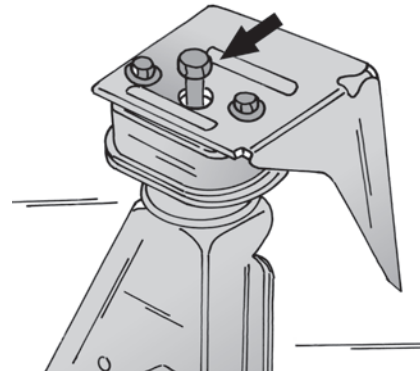
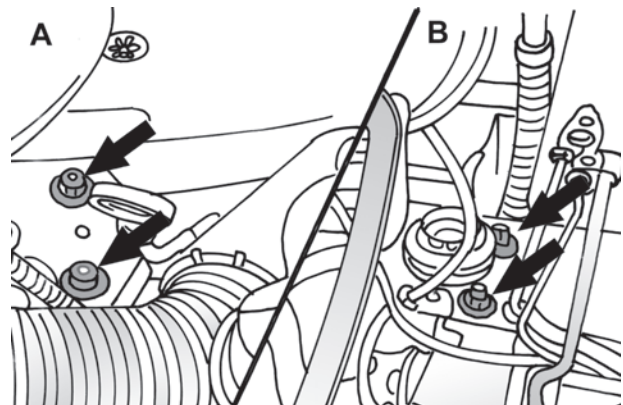

Fig. 1.12. – Power unit mounting with central bolt. Only remove the bolt shown by the arrow.
Fig. 1.13. – Power unit mounting without central bolt. In this case remove the nuts shown by the arrows.
- Place a mobile jack underneath the transmission (wooden block between jack head and transmission), until the assembly is under slight tension and remove the central bolts for engine and transmission mountings on the L.H. and R.H. side. This is the bolt shown in Fig. 1.12. If no central bolt is fitted as shown, refer to Fig. 1.13 and remove the bolts shown by the arrows. It will be difficult to gain access to the bolts. The engine side is shown with “A”, the transmission side with “B”.